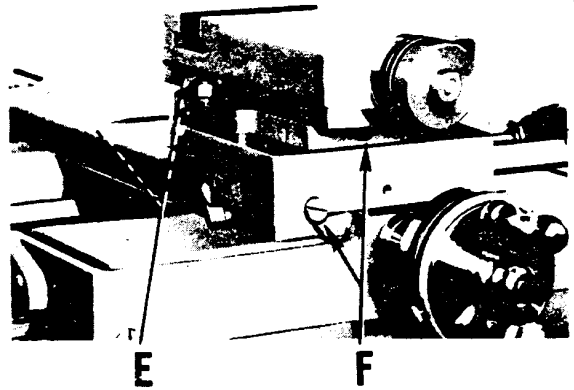

Fig. 23
**Carriage Rear Gib Adjustment (Fig. 23)**